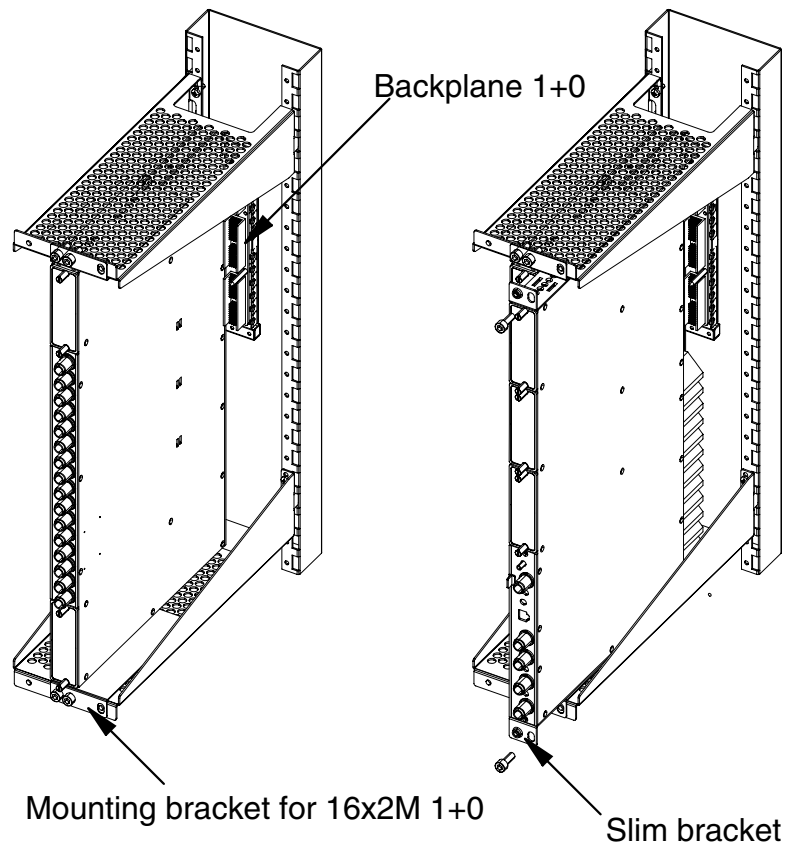

Figure 13. Installing FIU 19 16 x 2M 1+0 in a TM4 slim rack
To install FIU 19 (E) with 16 x 2M capacity (1+0) in a slim rack, follow the instructions in Section 4.1.2. Ignore the use of rack mounting nuts. They are not needed in this installation. Fix the units to the rack as shown in Figure 13.
4.3.3 FIU 19 (E) with 16 x 2M capacity and 1+1 protection